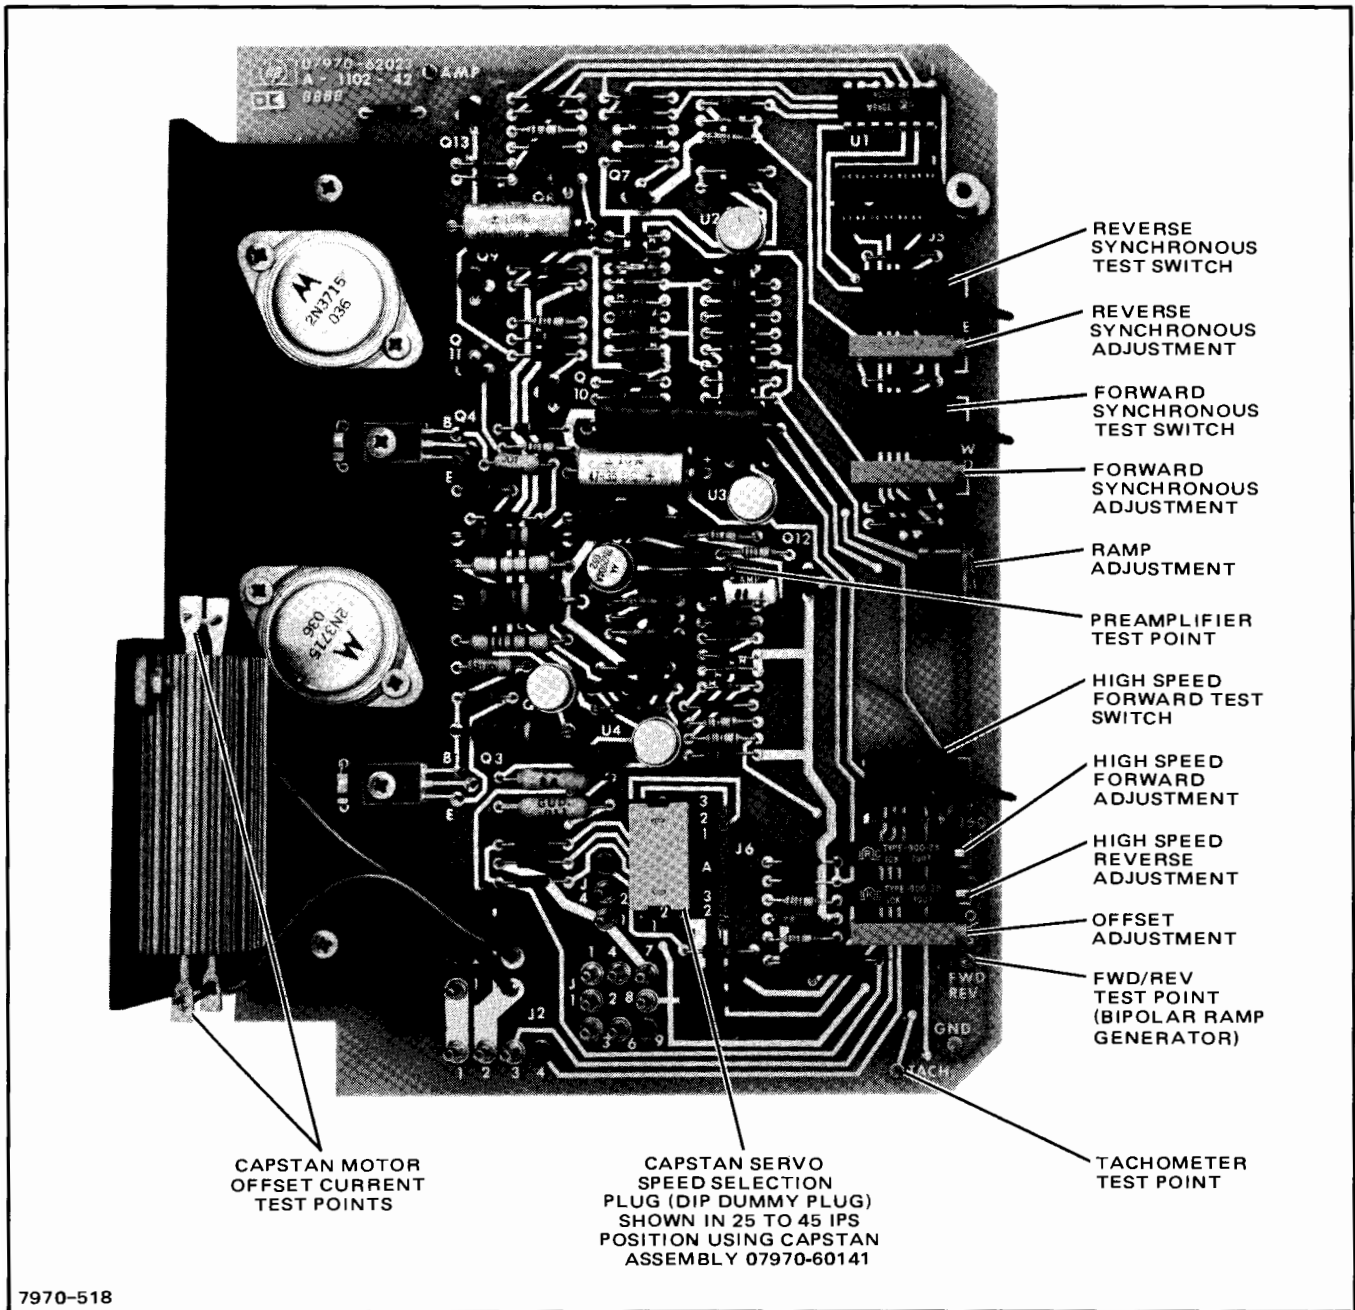

Figure 5-3. Capstan Servo PC Assembly, Test Points and Adjustments
5-24. Prior to making the capstan motor offset current adjustment, verify that the power supply voltages have been adjusted. Figure 5-3 shows the location of the capstan motor offset adjustment variable resistor.
and offset current are within tolerance. Figure 5-3 shows the location of service switches and forward and reverse drive adjustment potentiometers.
b. Place unit in high-speed forward mode with the high-speed forward (+160) service switch (figure 5-3), and use the high-speed forward (+160) adjustment (R53) to adjust speed until counter indicates  $53,333 \pm 100$  Hz. No adjustment is required if counter indicates between 52,533 and 54,133.
5-33. The high-speed reverse adjustment is identical to the high-speed forward adjustment, except that the local REWIND control is used to place the unit in the high-speed reverse mode and the high-speed reverse (-160) adjustment variable resistor (R60, figure 5-3) is used.
c. Adjust the capstan servo PC assembly RAMP control (See figure 5-3.) to obtain the time listed in table 5-1 for tape unit synchronous speed. Use the vertical gain vernier control of the oscilloscope to expand the waveform so that the 90% point may be conveniently measured.